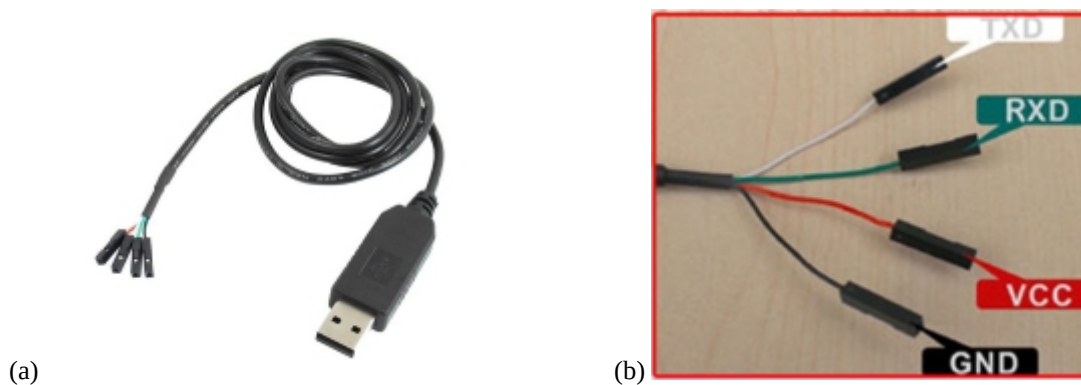

Fig. 16. (a) The USB-RS232 cable and (b) its RS232 pinout.
In AVR microcontrollers, USART is based on the RS-232 standard. For the communication between the MCU and a PC, a RS232-to-USB cable (simply called USB-RS232 cable, as shown in Fig.16) together with a corresponding driver is used to connect the MCU and the PC. Complete information on the USART drivers for AVR UC3-A3 microcontroller is available in the following link http://asf.atmel.com/docs/latest/uc3a3_a4/html/group_group_avr32_drivers_usart.html
- Connect the white and green wires of the USB-RS232 cable, respectively, to the TXD and RXD pins of header J4 on the kit (Fig. 16). The detail on RS232 is given in Appendix B.